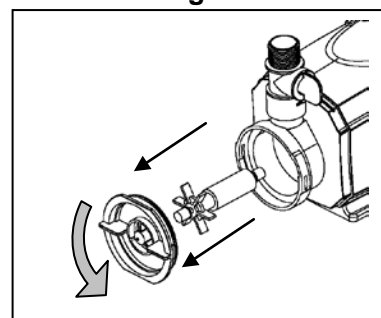

Fig. 10
4. Remove the impeller cover to expose the impeller assembly. Remove the impeller assembly by gently pulling on the impeller blades. Use a soft cloth or brush to clean the impeller assembly and inside of the impeller housing. Fig. 10